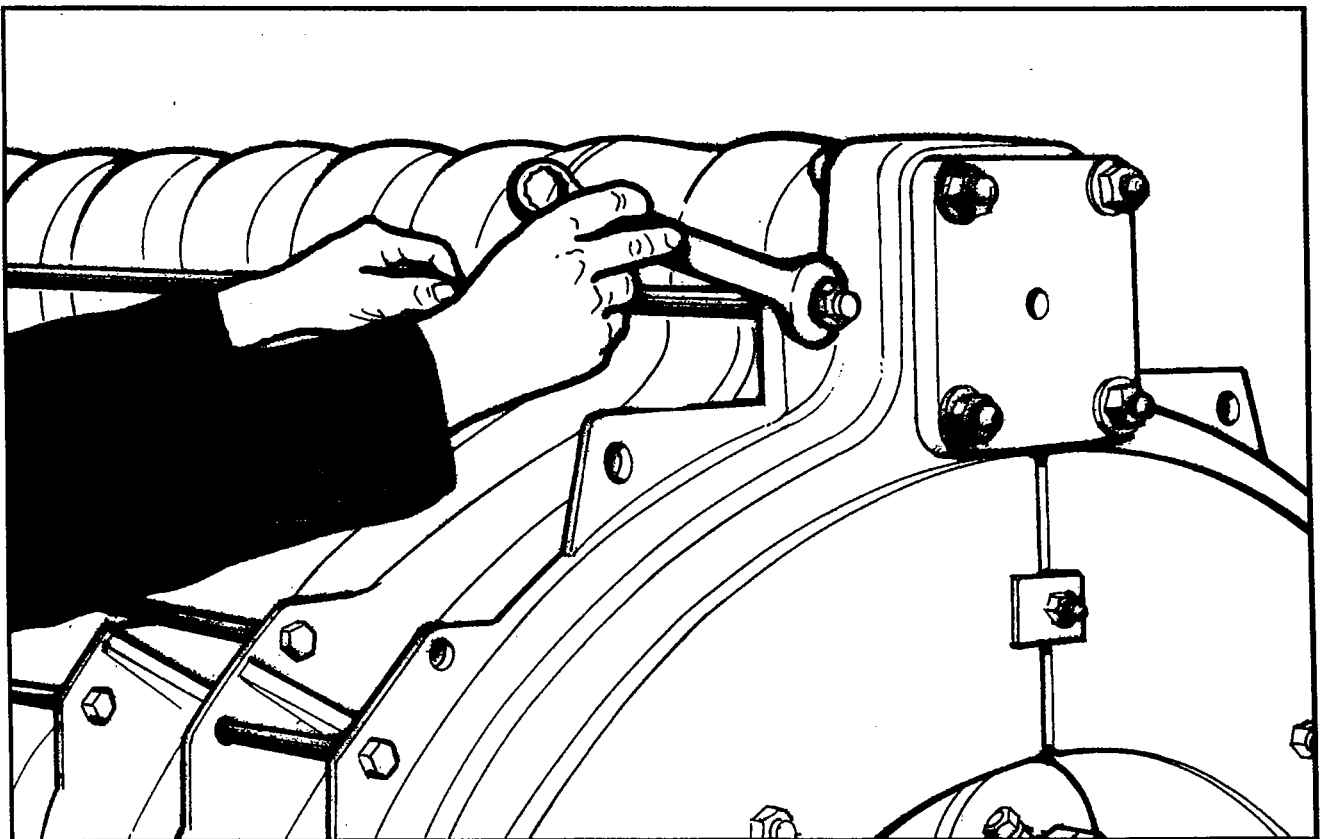

Figure 10.7 – Fitting Upper Tie Rods
i. After fitting front section (1), fit the four tie rods (6) through the lugs on top and bottom of front and rear sections (Figs 10.7 & 10.8). Tighten tie rod nuts to a torque of 45 Nm (34 lbf.ft)
j. Fit thermostat pocket (36) in top of front section, and 3/4" BSP drain plug or cock (not supplied) to bottom of front section.
k. Fit heating flow pipe elbow (9) to top of rear section.
l. Fit water distribution tube (39), holes uppermost, into the return connection at bottom of rear section (**HE600 TO 900 only**).